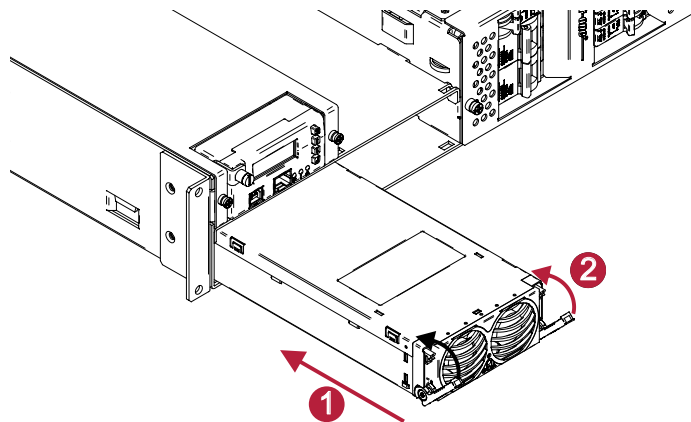

Figure 4-23 Rectifier Installation
2. Slide the rectifier module into the slot until it contacts the interface connection at the rear of the shelf, Figure 4-23 #1.
3. Fully insert the rectifier by pushing the handle towards the shelf. The rectifier handle will rise up and lock the rectifier into the position, Figure 4-23 #2.